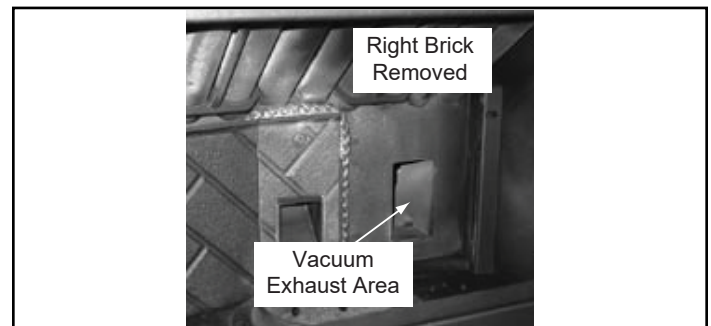

Figure 20.2
- Open face, remove baffle and right brick and thoroughly vacuum the area and continue throughout the rest of the firebox (**Figure 20.2**).